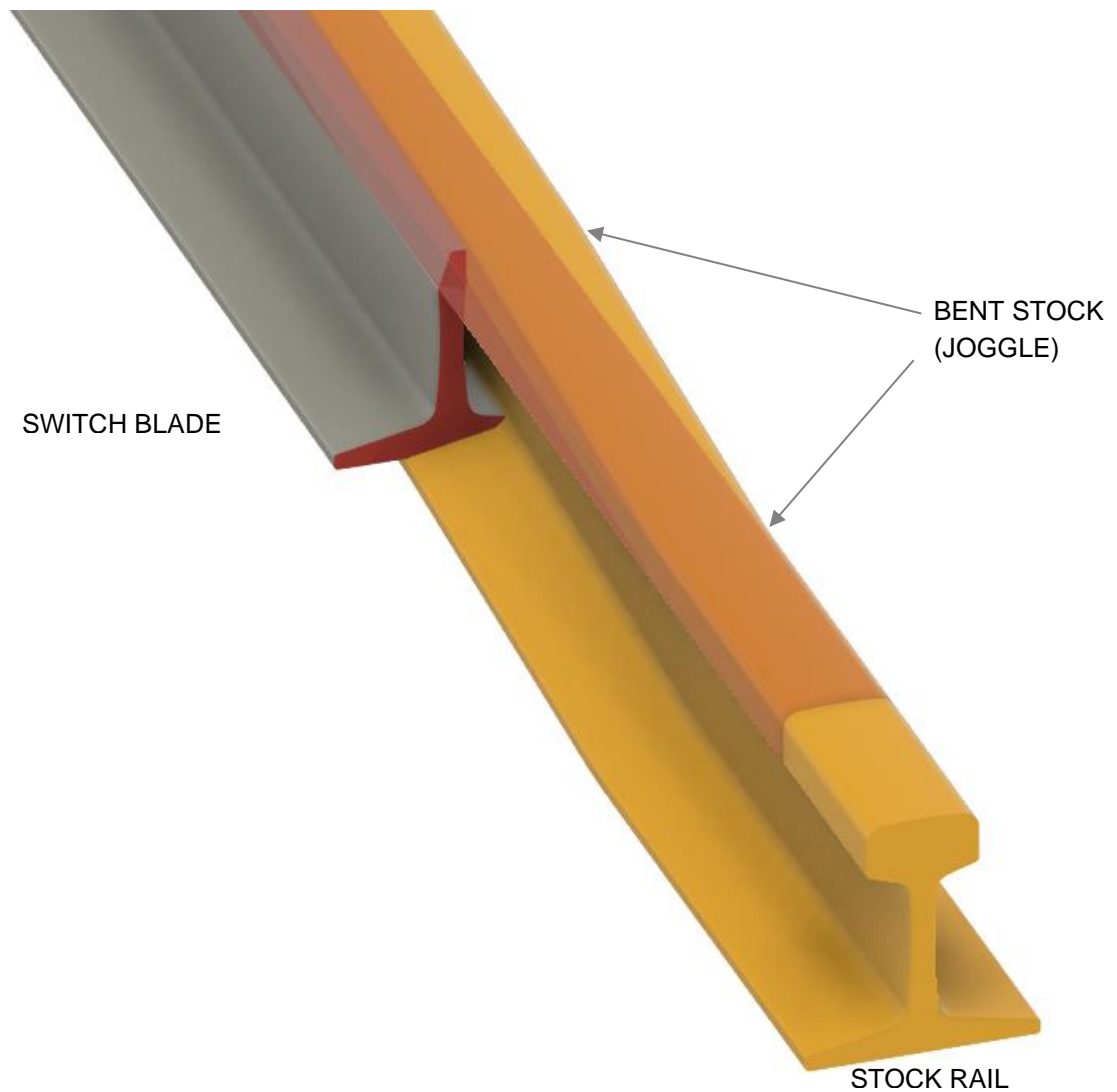

Figure 3
1. the applicable stock rail has been joggled (as found on heavy duty or housed switches see figure 3)
2. the whole of the switch tip sits within a virtual extension of the stock (see figure 3)
Figure 3 shows a joggled stock rail in yellow. It is identified by the offset created by two adjacent bends. The end of the switch rail is shown in red. The virtual extension of the straight portion of the stock rail head is shown as transparent in red. In this example the switch tip sits within the virtual extension of the stock. In practice the switch tip can be checked with a straight edge aligned to the straight portion of the stock.